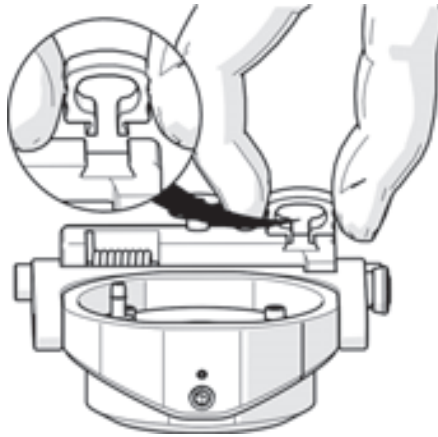

Figure 4-92 Pinch the cable clip to remove
1. The supplied cable clip is offered as a means of cable management, but it is not typically used with the raster arm. Pinch the clip to remove it if necessary (see Figure 4-92 on page 160).